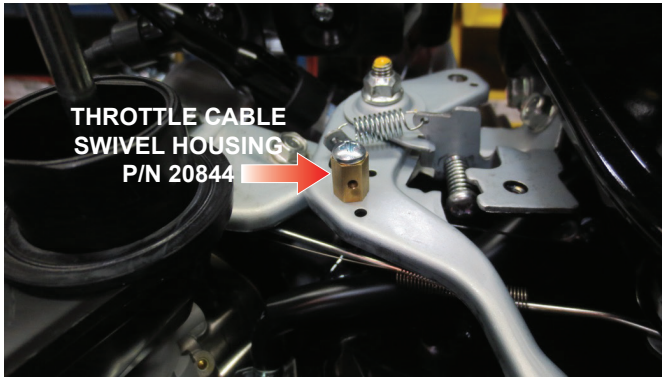

Figure 19. Secure Throttle Cable Swivel Housing
11. Tighten the throttle cable swivel housing (P/N 20844) securely. See Figure 19.